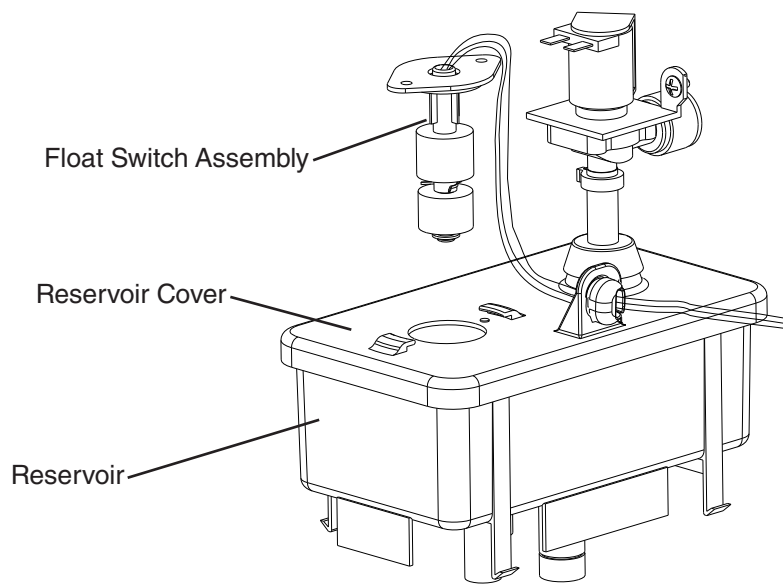

Fig. 6
- 5) Remove FS assembly from the reservoir cover. See Fig. 6.